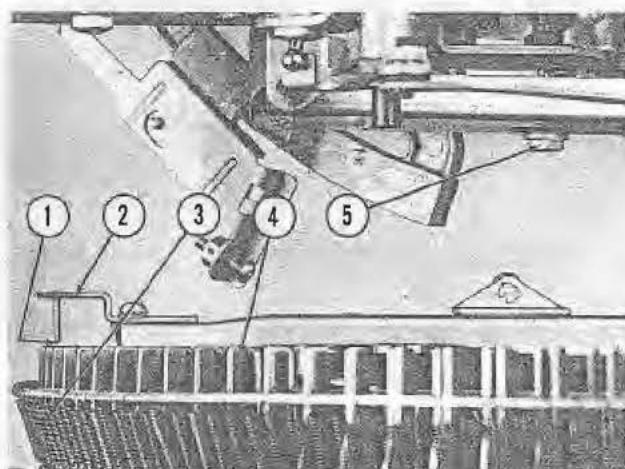

Fig. 41. SELECTOR CRANK CLEARANCE ADJUSTMENT, 2400, 2410
(1) Both tip and bracket assemblies at the ends of the selector crank arms on the 200 and the 100 selector crank arm assemblies should clear the tips of the selector latch pins in their latched position by $1/16"$ (Fig. 41, Item 1) as the crank arms are rotated. To vary this dimension the screw (Fig. 41, Item 5) may be adjusted. The 100 selection changer has this adjusting screw in the same location but is adjustable from the top end instead of the lower end.